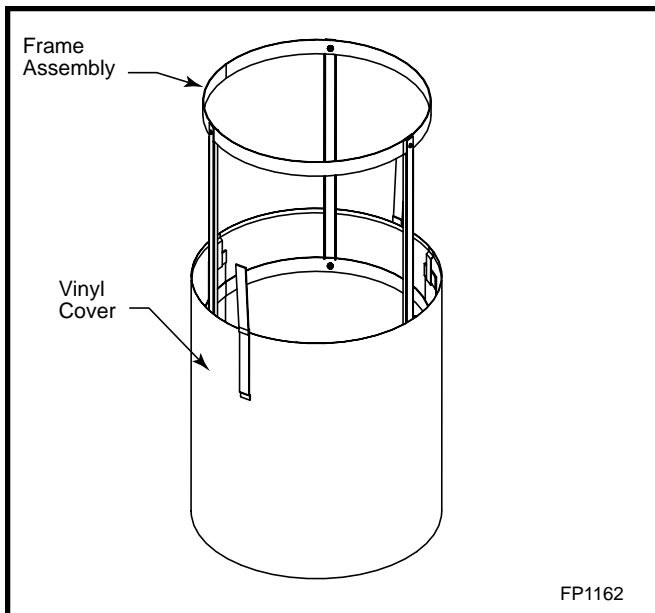

Fig. 17 Insert frame assembly into vinyl cover.
3. Place vinyl cover on the floor with the opening facing up. Insert the frame assembly into the cover. (Fig. 17)